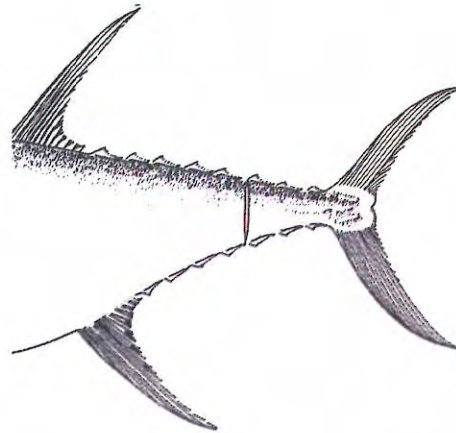

Figure 8. Bleed fish by cutting tail.
- Step 1** Cut the blood vessel vertically between the third and fourth dorsal finlet from the tail (Figure 8).